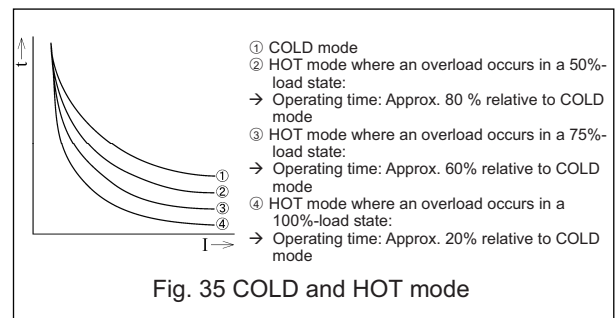

Fig. 35 COLD and HOT mode
- ④ NON setting disables protective functions. If the short time delay trip function and the instantaneous trip (or MCR) function are both attempted to be set to NON, however, the fail-safe operates so that:
⑤ A pickup current means the threshold by which the OCR determines whether or not an overcurrent occurs. When the current flowing through the OCR exceeds the pickup current setting provided that $[I_n] \times 1.05 < \text{pickup current setting} \leq [I_n] \times 1.2$, the OCR starts counting the time for tripping. Once the current flowing through the OCR reduces to less than the pickup current setting, time count is reset.
⑥ In HOT mode, the OCR is actuated in shorter time than in COLD mode when an overload occurs after a certain degree of load is maintained for a certain time of period. The OCR is factory set to COLD mode. See 5-3-2-6 for how to set the OCR to HOT mode. If the control power is lost, load data stored in HOT mode is cleared. Fig. 35 shows the operating time in COLD and HOT modes.
⑦ The short time delay trip function has precedence over the long time delay trip function. The OCR operates at the short time delay trip timing even in those current ranges in which the long time delay trip time setting is shorter than the short time delay time setting.
⑧ If DC24V zone interlock power is not provided between ③③ and ③④, the zone interlock is inoperative and the short time delay trip function works with a total clearing time of 50 ms or less when a fault current is detected.